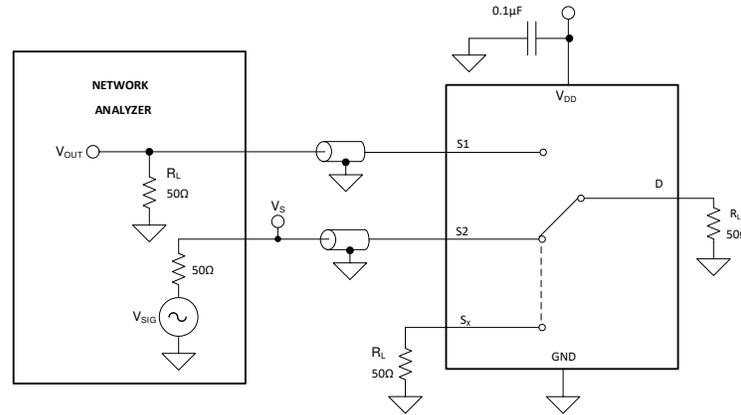

图 8-9. Channel-to-Channel Crosstalk Measurement Setup
Crosstalk is defined as the ratio of the signal at the drain pin (D) of a different channel, when a signal is applied at the source pin (Sx) of an on-channel. 图 8-9 shows the setup used to measure, and the equation used to compute crosstalk.